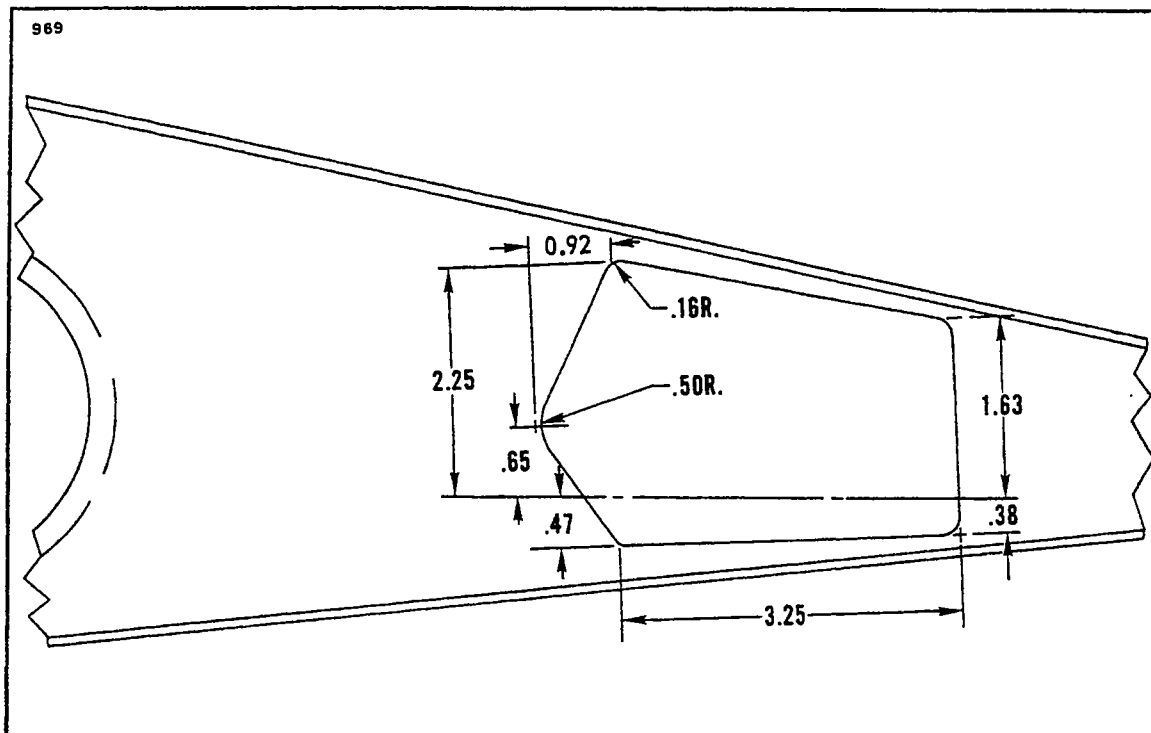

Figure 4-22. Wing Rib Modification .
4-76. AILERON BALANCE WEIGHT MODIFICATION. (PA-28-140, Serial Nos. 28-20002 to 28-25547 incl.; PA-28-150, -160, -180, Serial Nos. 28-1 to 28-5339 incl.; PA-28-235, Serial Nos. 28-10003 to 28-11235 incl.; PA-28R-180, Serial Nos. 28-30005 to 28-31119 incl.) To facilitate the use of new aileron balance weight assembly (P/N 66766-00) on above stated airplanes, it will be necessary to modify the balance weight cutout in the wing rib. (Refer to Figure 4-22.) The hole pattern in the new balance weight bracket is the same as the old bracket with the exception of two holes. When replacing the old bracket with the new one, it is permissible to use the new bracket as a hole template to drill the two new holes at their proper location. To install the balance weight assembly, the following procedure may be used:
- d. Using the new bracket as a template, drill the two new holes in the rib. (Refer to Figure 4-22.)